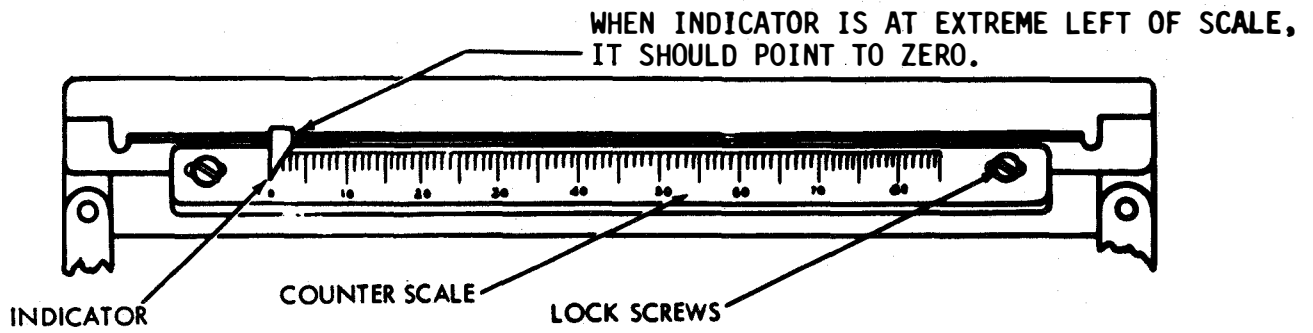

Figure 6-301. Character Counter Scale
(8) Character Counter Scale. Adjust as follows:
- (a) Refer to figure 6-301.
(1) Travel Screw. Adjust as follows: